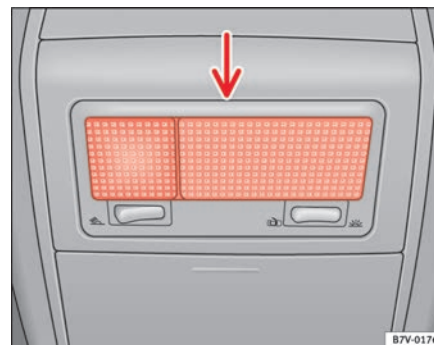

Fig. 169 Interior light
- Insert a fine screwdriver or similar between the casing and the glass (arrow) ⇒ fig. 169 and carefully remove the glass. ►